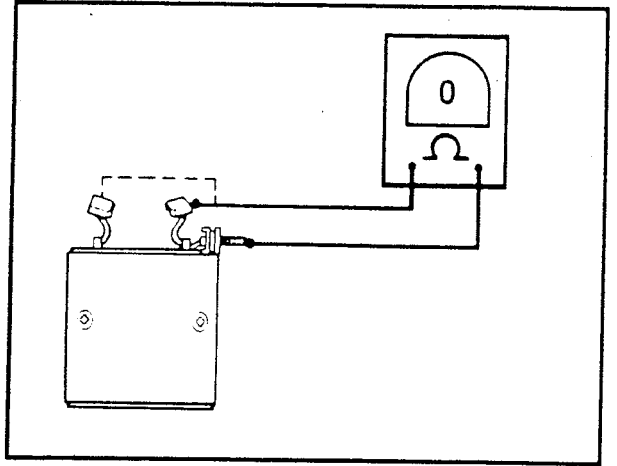

Figure 4-38. Open Field Test
7. See Figure 4-38. Check for OPEN FIELD WINDING with an ohmmeter or continuity tester. Touch one probe to the field wire, and the other probe to each of the brushes attached to the field coils. There should be continuity. If there is no continuity at either brush, the field winding(s) are open and the field frame should be replaced.